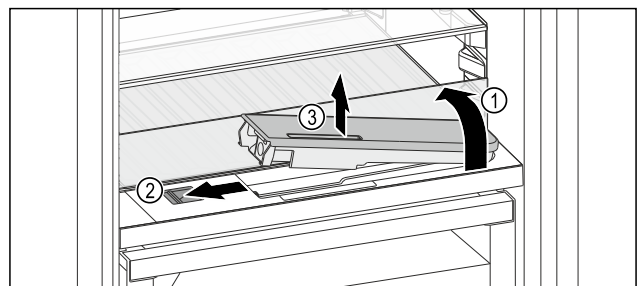

Fig. 173
- Lift the glass panel and fold towards the rear until it clicks into place Fig. 173 (1).
- Slide the slider Fig. 173 (2) to the left.
- Remove the water tank Fig. 173 (3).